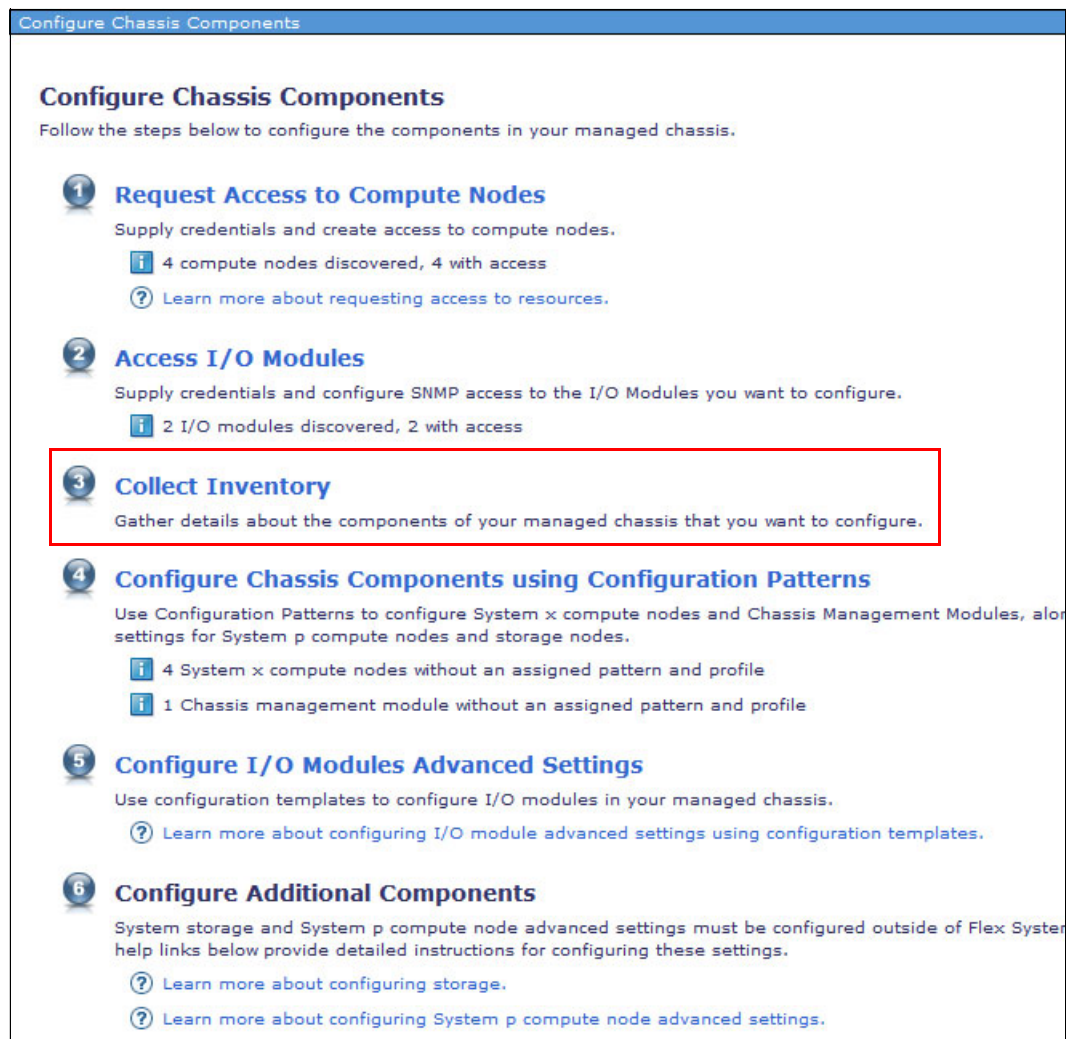

Figure 6-33 Configure Chassis Components window
3. Collect inventory on all chassis components by clicking **Collect Inventory** in the Configure Chassis Components window, as shown in Figure 6-33.